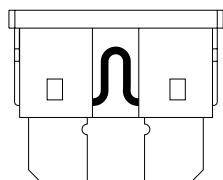

FIGURE 10. WORKING FUSE
*NOTE: If a fuse must be replaced (see figures 10 and 11), use only the specified amp fuse. For more information, see X. "Care and Maintenance."*